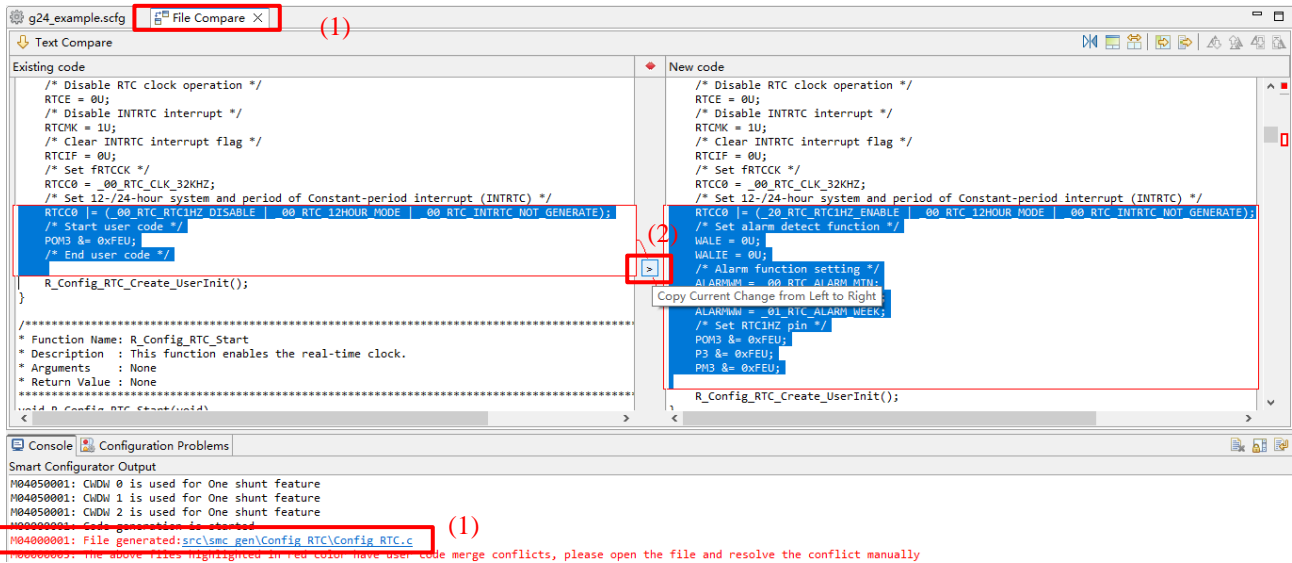

Figure 10-4 Code before Resolving Conflict
- (1) Click on the conflicting file in the console to open the “File Compare” view (Figure 10-4 Code before Resolving Conflict).
- (2) Click on “Copy Current Change from Left to Right” (Figure 10-4 Code before Resolving Conflict).